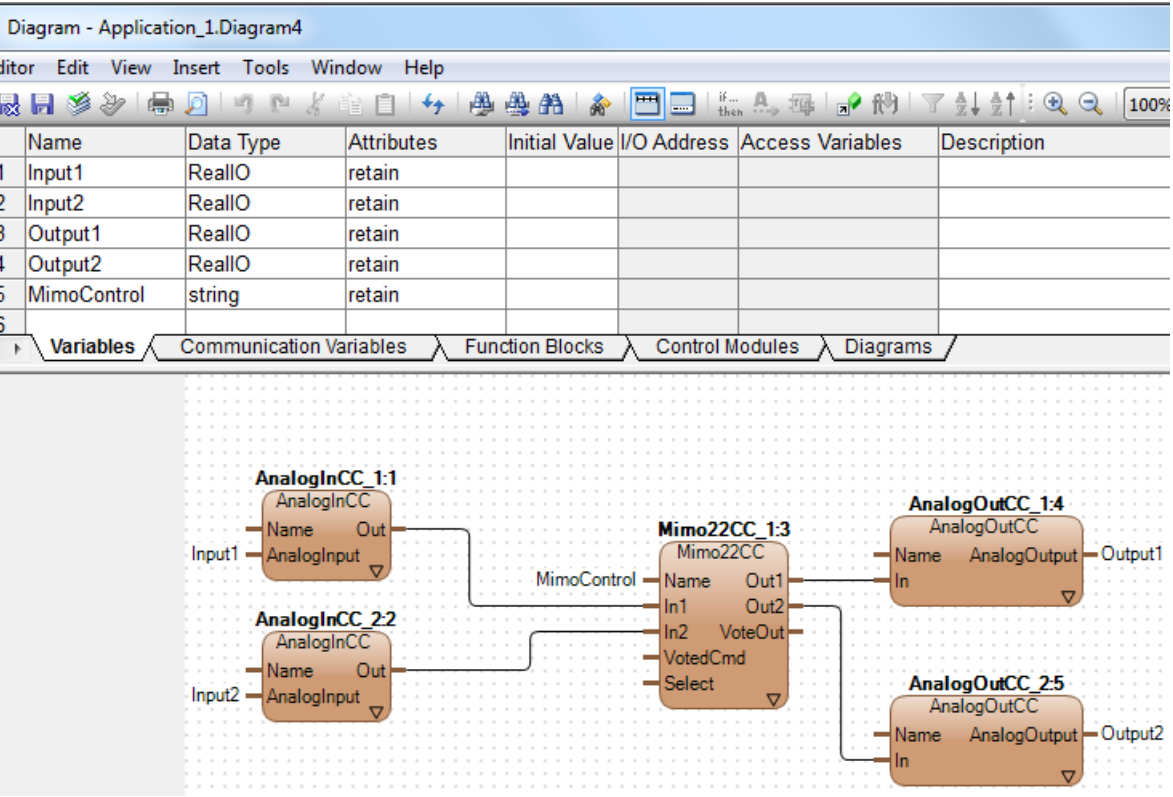

Figure 41. Mimo22CC connected in diagram editor
11. Connect the control modules correctly. Figure 41 shows the completed connection for the MIMO22CC object in the diagram editor.